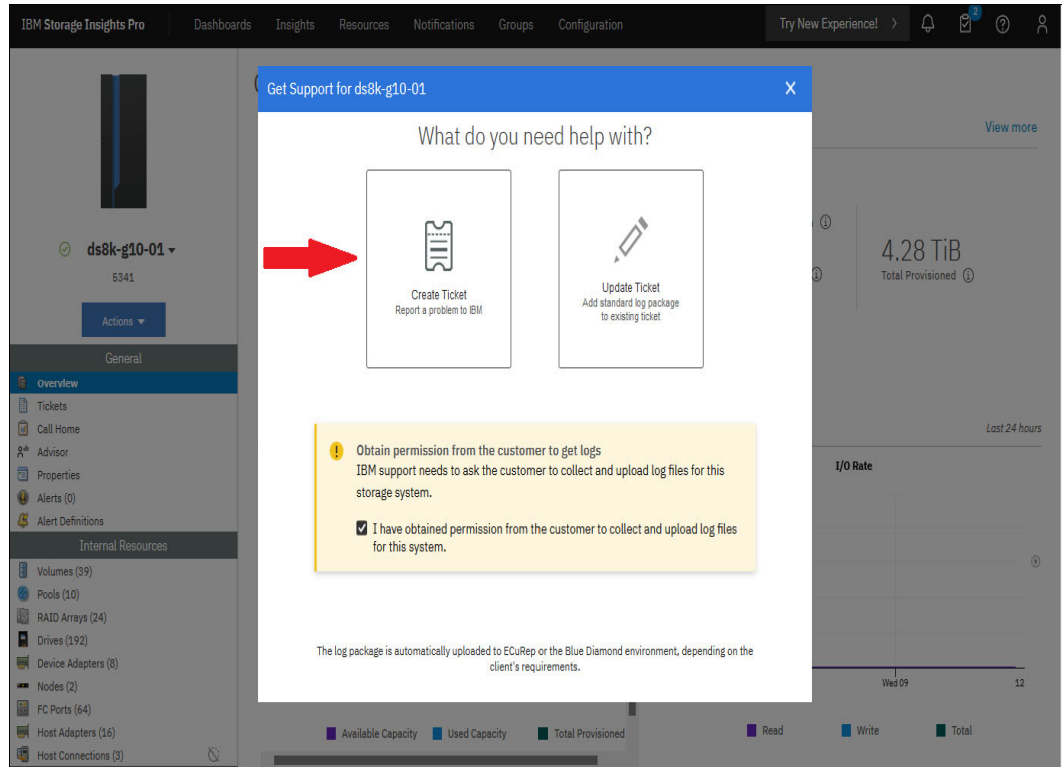

Figure 12-20 IBM Storage Insights: Create Ticket
2. A new window opens with two options from which to select. Click **Create Ticket**, as shown in Figure 12-20.